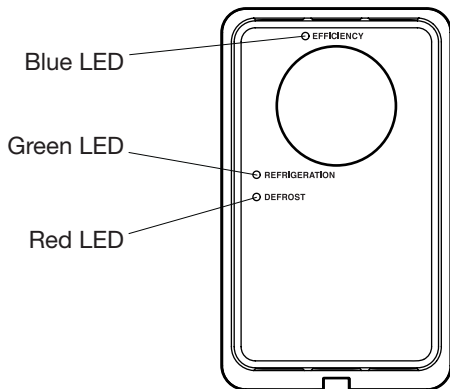
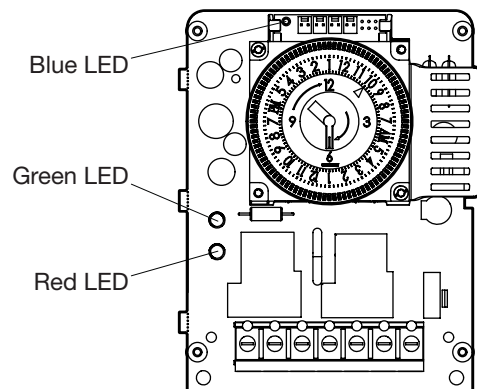

FIG. 11 LEDs (Enclosed Model Shown)
FIG. 12 LEDs
5. See TABLE 1 and FIG. 11 or FIG. 12 to verify proper operation of the ICUBE™ module.